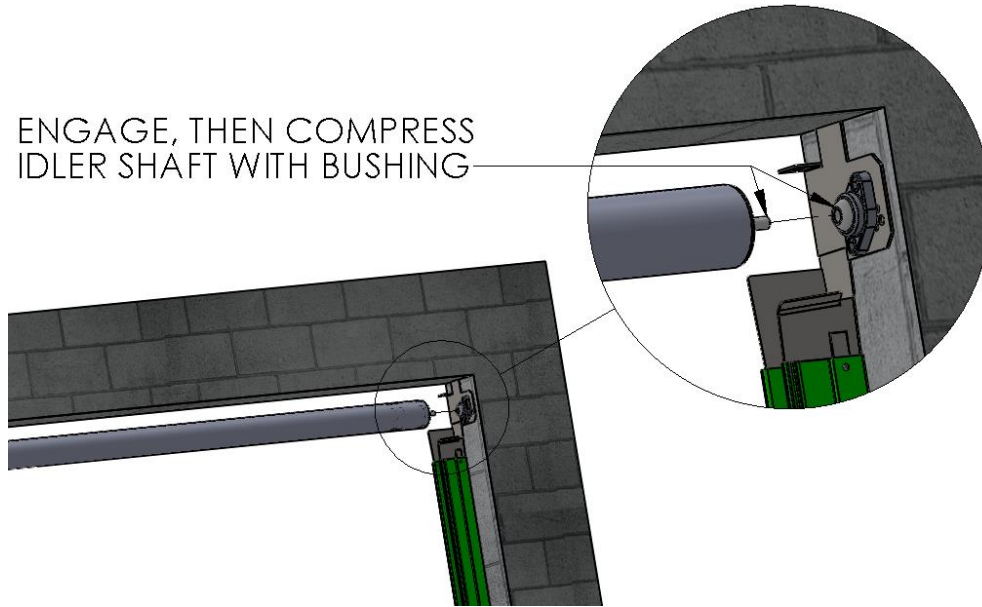

Figure 5 INSTALL R.H. IDLER SIDE OF HEADER ASSEMBLY
1. Using two (2) people, and two ladders at minimum, raise the Header Assembly, and insert the Idler Shaft into the installed Idler Bearing Assembly at upper right. (Figure 5 INSTALL R.H. IDLER SIDE OF HEADER ASSEMBLY)